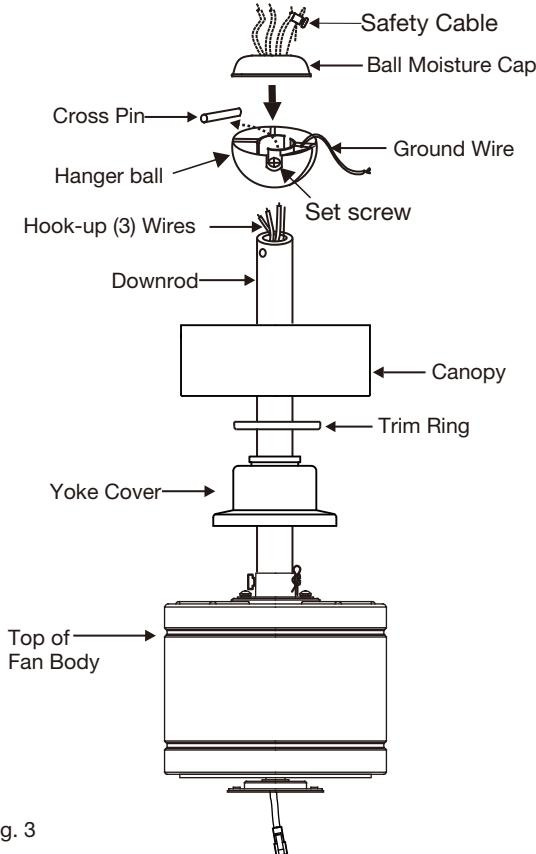

Fig. 3
- 6 Slip the yoke cover, trim ring and canopy onto the downrod. (Fig. 3)
- 8 Feed wires through holes in rubber ball moisture cap and slide cap down over top of ball. (Fig. 3)